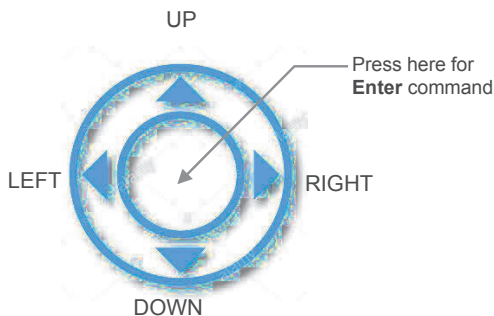

FIGURE 8: Control Joystick
6.3 Instrument Process Information (PI) screens
Based on instrument configuration, different parameters may be displayed in the Process Information (PI) screen by moving the control joystick (see **Figure 8**) Up or Down (DN).